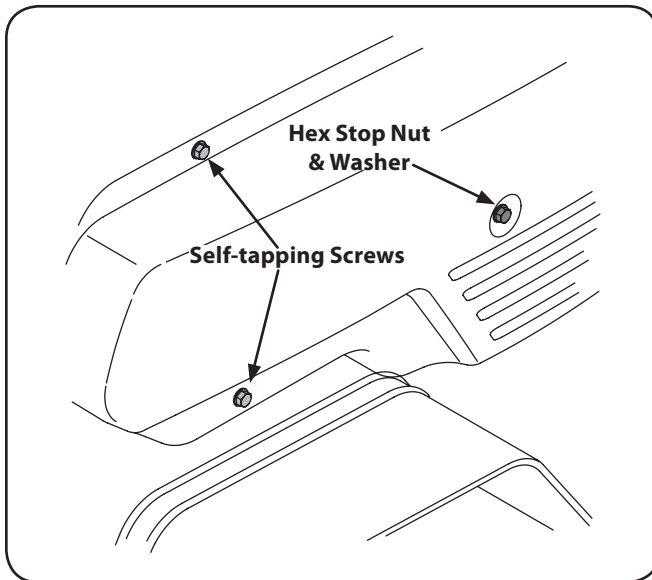

Figure 7-1
2. Remove the belt cover from the left side of the tiller by removing the two self-tapping screws and the hex stop nut and washer. See Figure 7-1.